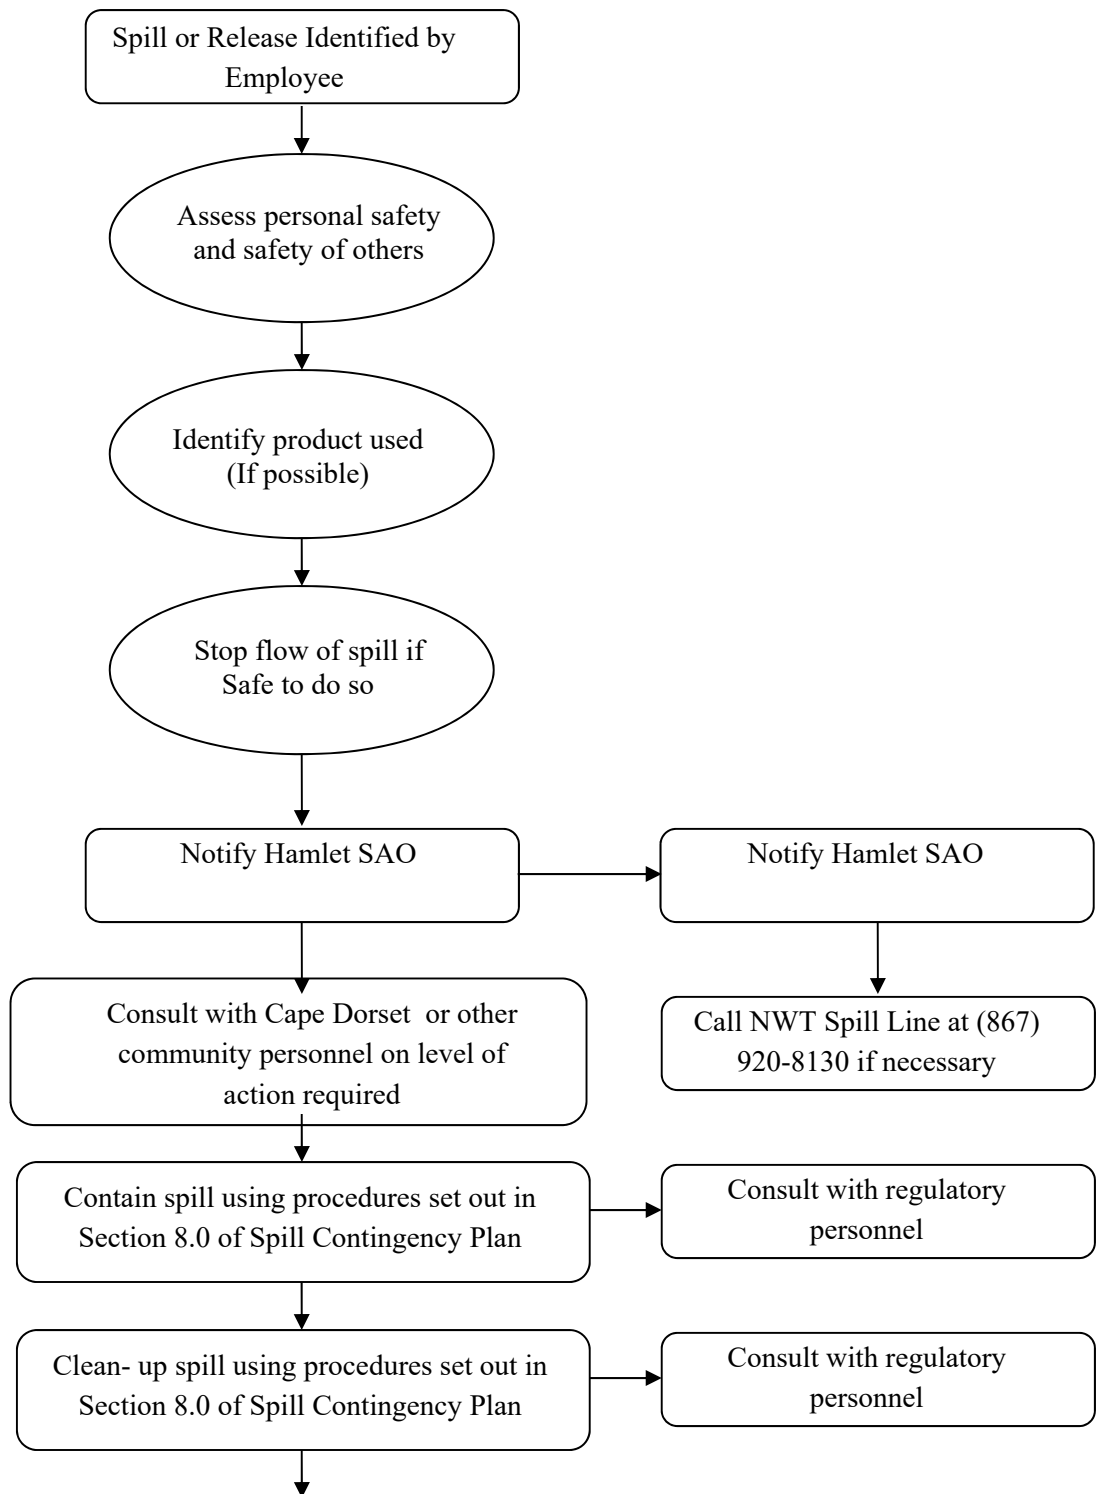

Figure 3: Flowchart of Spill Communication Lines
- Contact SAO of the Cape Dorset Hamlet office, as per flowchart in **Figure 3**.